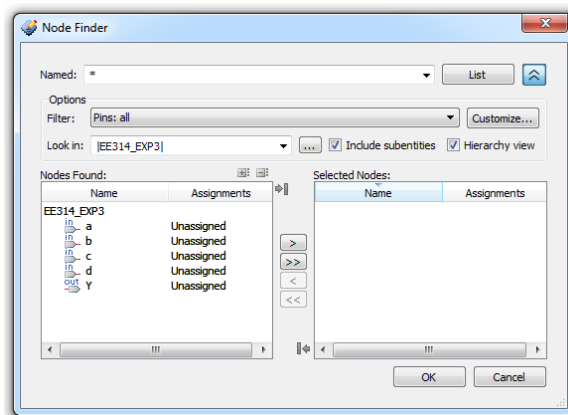

Fig. 12: Node finder window
G.3) Click on  the button to reach the window in Fig. 12. Click on  to reach more search options. In Filter drop down menu select **Pins: all**. Then click the List button to display output and input pins to be assigned: (Y, a, b, c, d). Click on **>>** button and click OK. Now all pins are labeled under the column **To**.